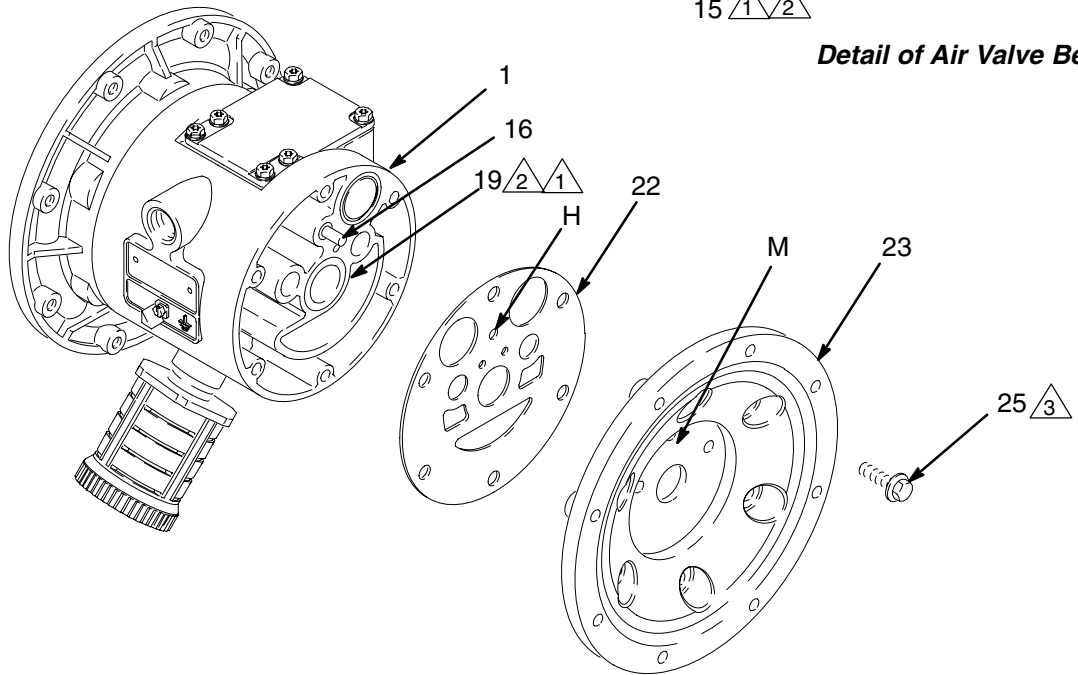

Fig. 15
- NOTE:** If you are removing only the diaphragm shaft bearing (19), skip step 4.
5. Using a 10 mm socket wrench, remove the screws (25) holding the air covers (23) to the center housing (1). See Fig. 15.
6. Remove the air cover gaskets (22). Always replace the gaskets with new ones.
7. Use a bearing puller to remove the diaphragm shaft bearings (19), air valve bearings (12) or pilot pin bearings (15). Do not remove undamaged bearings.
1. If removed, install the shaft u-cup packings (402\*) so the lips face **out** of the housing (1).
2. The bearings (12, 15, and 19) are tapered and can only be installed one way. Insert the bearings into the center housing (1), **tapered end first**. Using a press or a block and rubber mallet, press-fit the bearing so it is flush with the surface of the center housing.
4. Align the new air cover gasket (22) so the pilot pin (16) protruding from the center housing (1) fits through the proper hole (H) in the gasket.
5. Align the air cover (23) so the pilot pin (16) fits in the middle hole (M) of the three small holes near the center of the cover. Install the screws (25), handtight. Apply medium-strength (blue) Loctite® or equivalent to the threads of the screws (25). See Fig. 15. Using a 10 mm socket wrench, torque the screws oppositely and evenly to 130–150 in-lb (15–17 N•m).